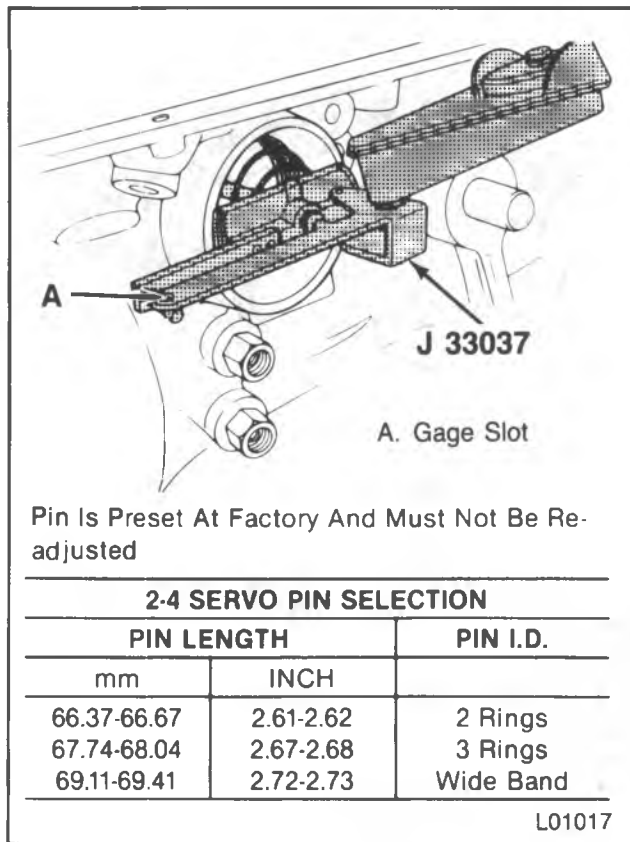

Figure 88 — Measuring the Servo Pin Length (THM 700-R4)
Measure (Figures 88 and 89)
- Servo pin length (Figure 88).
- Apply 11.0 N·m (97 in. lbs.) torque and check the gage slot (A).